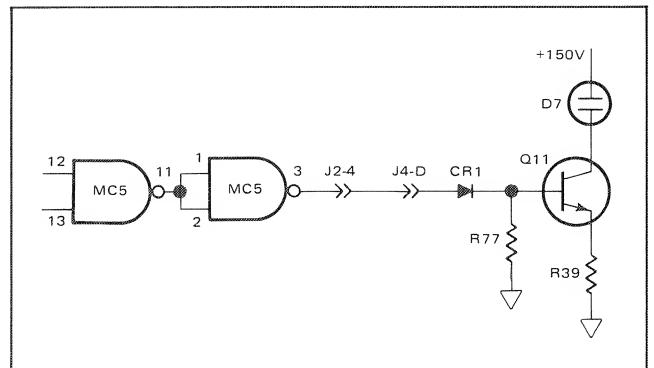

Figure 5.4 - Gate Annunciator
- With an oscilloscope, check at the cathode of CR1 for a pulse going from zero to +4.0 volts. If the pulse is not present, check at J2-4 (see circuit, figure 5.4).